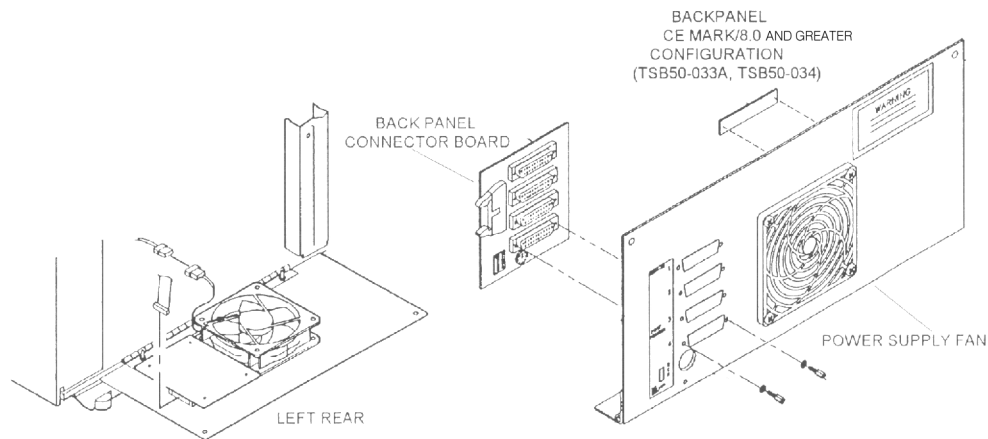

Figure 4-54. Power Supply Fan
3. Disconnect fan cable (**Figure 4-54**).